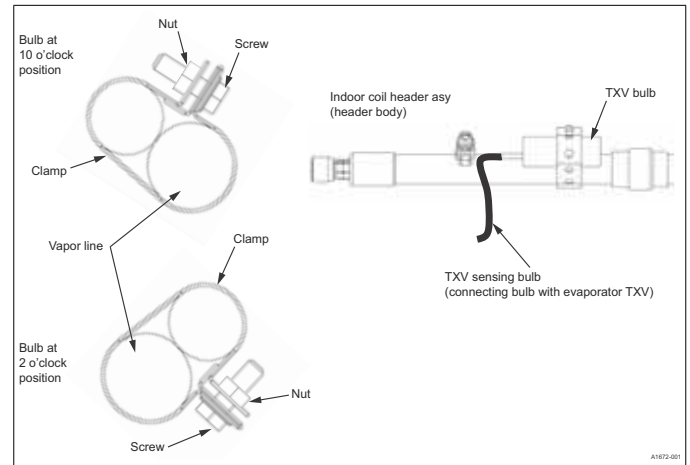

Figure 7: Correct bulb location (A-coil)
8. Install the TXV bulb to the vapor line near the TXV equalizer tube connection port, using the bulb clamps supplied with the TXV assembly. Ensure the bulb makes maximum contact. See **Figure 7** and adhere to the following: